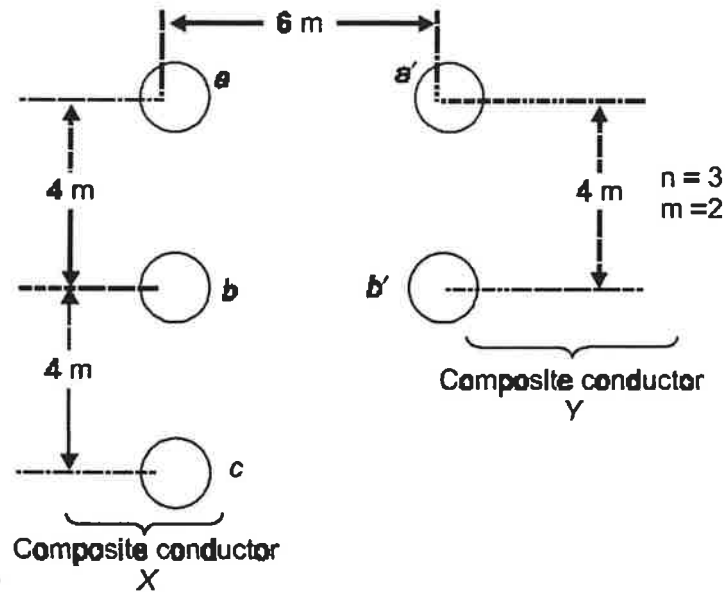

Figure Q1b).
- b) Determine the inductance of a single-phase transmission line consisting of three conductors of 2 cm radii in the 'go' conductor and two conductors of 4 cm radii in the return conductor as shown in Figure Q1b).